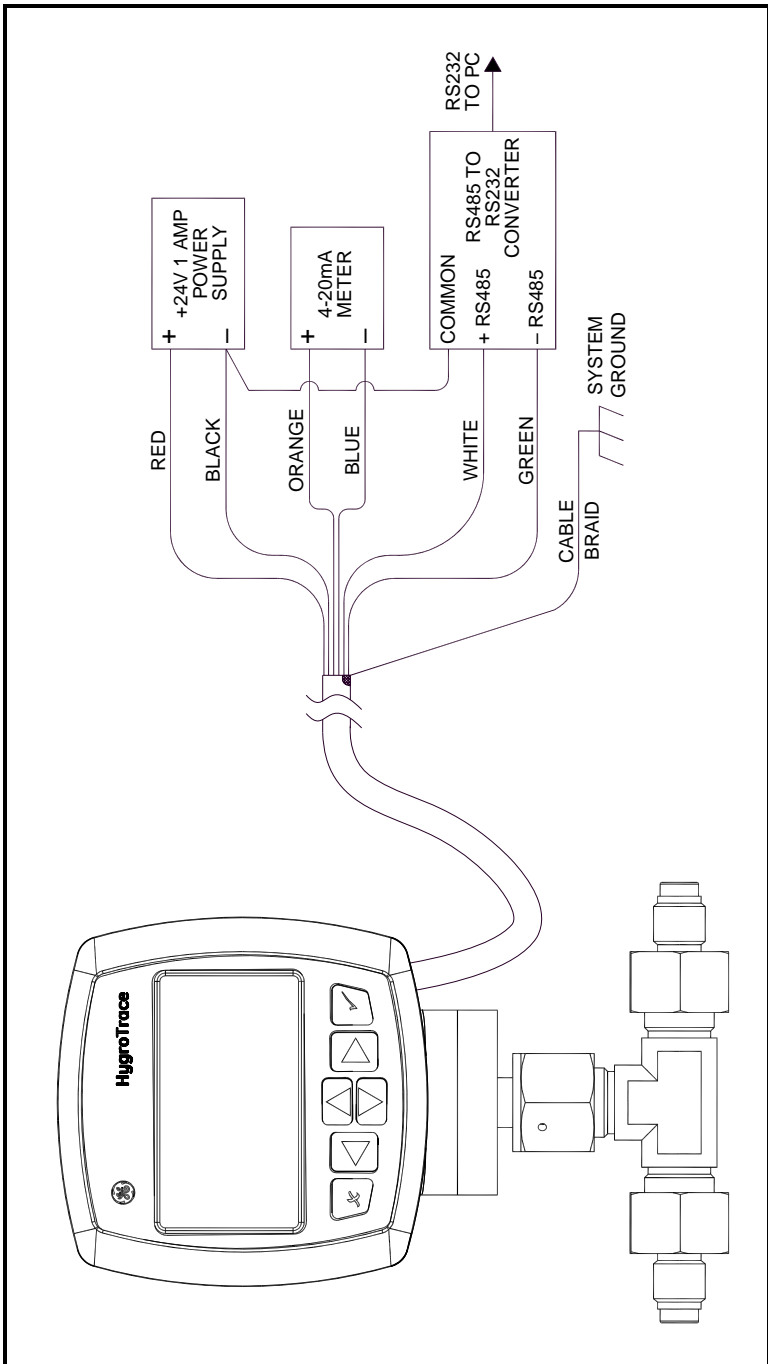

Figure 4: Standard Wiring Connections (ref. dwg #702-684)
- Using the flying leads at the other end of the transmitter cable, connect the transmitter to the power supply and data acquisition system (DAS) as shown in Figure 4 on page 6. Refer to Table 1 below for a description of the leads in the factory-supplied cable.
2. Using the flying leads at the other end of the transmitter cable, connect the transmitter to the power supply, the data acquisition system (DAS) and the computer as shown in Figure 4 on page 6. Refer to Table 2 below for a description of the leads in the factory-supplied cable.